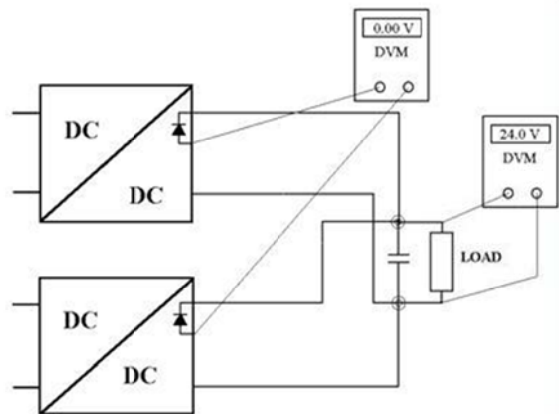

Figure 5. Adjusting output voltage measure at +Test or pin 8 on the H15 connector.
2. Measure the voltage at the load. Connect voltmeters as showed in *Figure 5*. If you have only access to one voltmeter you must move it around to make the adjustments.
3. To **increase** the output voltage. Increase the output voltage by turning the potentiometer marked "V.ADJ" clockwise on the unit with the lowest output voltage until you reach the desired voltage at the load or until the output voltage does not increase anymore (as the unit is in current limit). To find the unit with the lowest output voltage you can measure the voltage difference before the series diode, as in *Figure 5*. Repeat from i. until you reach the desired output voltage at the load.
the desired voltage at the load or until the output voltage does not decrease anymore (as the other units supply all current). To find the unit with the highest output voltage, measure the voltage difference before the series diode, as in *Figure 5*.